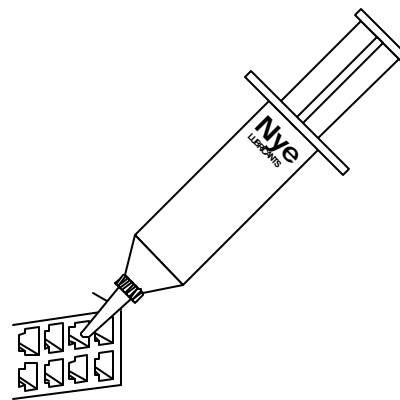

Figure 2
4. **Lubricate** each terminal using Nye? 760G lubricant as shown in figure 2. Apply enough lubricant to each terminal opening to completely fill each opening to a depth of .125" minimum.